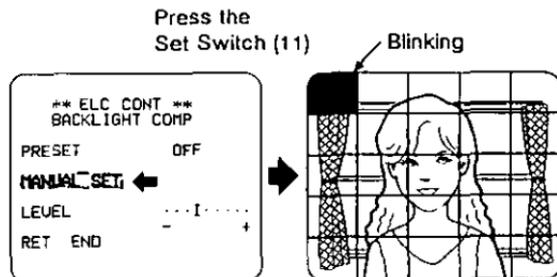

Fig. 62
- Move the cursor to the "MANUAL SET" mode position and press the Set Switch (11). The 25 Mask Areas appears on the monitor screen as shown in Fig. 62. The left top area starts blinking as a cursor.